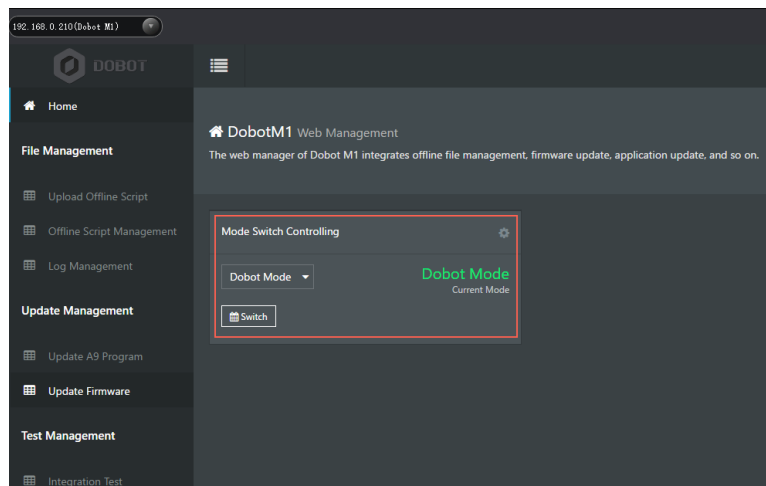

Figure 5.20 Status of Dobot M1
- M1Studio can be connected to Dobot M1 only when the Dobot M1 is in the Dobot Mode. You can check the current mode of Dobot M1 on the **Tools > Web Management** page, as shown in Figure 5.20. For details, please see *6.9 Operating Web Management*.